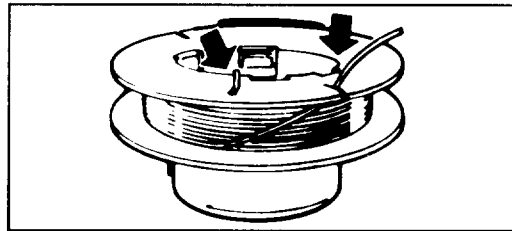

Figure 10
C. Keep line tight on spool by securing in remaining spool notch (Fig. 10).